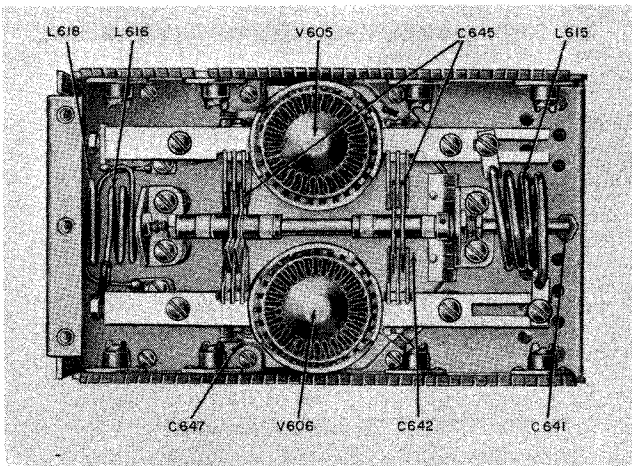

Figure 7-18. Power Amplifier Shelf Assembly, Top View
The locations of the various components in the Amplifier-Oscillator unit are shown in figures 7-10, 7-11, and 7-12. The illustrations of the subassemblies, figures 7-18, 7-19, and 7-20, may also be of value in this respect.
(9) Adjust and tighten coupling so that the gang capacitor is at maximum capacity when the tuning drive is against its stop.
(10) Align r-f circuits, as necessary. (See paragraph 4, this section.)
e. PA GRID AND OUTPUT FILTER TUNING CAPACITOR, C637.—If it should become necessary to replace or repair any part of capacitor C637, or to tighten or straighten any of the stator plate assemblies, removal of C637 from the Amplifier-Oscillator can be accomplished by the following steps (see figures 7-18 and 7-19):
(1) Loosen the Camloc fasteners and remove the side plates. Remove all crystals from the CRYSTAL SELECTOR switch (S601).
(2) Remove the six screws holding the top plate in place and remove the top plate assembly.
(1) Follow steps (1) through (13) of paragraph 3e, this section, performing step (5) for all three tuning drives; refer to figures 7-18 and 7-19.
(2) Unsolder the leads to C633, C634, C635, C641, and C644.
(3) Remove the screws which secure the intermediate shelf to the blower compartment at the rear and to the front frame. Remove the shelf by lifting the front end and sliding out.
(4) Remove W601 from J602.
(5) At this point, any of the driver tank coils (L602, L604, L607, L609, or L610) may be removed and replaced if such is required.
(6) Unsolder C602, C609, C614, and C620 from the stators of C605.
(7) Take out the 15 retaining screws which secure the bottom cover plate to the frame and remove the plate.
(8) Remove C605 by removing the three screws which hold it in position; the screws are accessible from the bottom of the driver shelf. Do not lose the spacers.
(9) To reassemble, perform the preceding steps in reverse order. When tightening the couplings between the tuning drives and the capacitor shafts, each capacitor must be at maximum capacity when the tuning drive is against its stop.
frequency end of the tuning range. If the output coupling is correctly set, readings between 75 and 87 should result. If readings greater than 87 are obtained, decrease the coupling by increasing the separation between coils L616 and L618 (see figure 7-18). Conversely, if the plate-current readings are low, decrease the spacing between the coils.